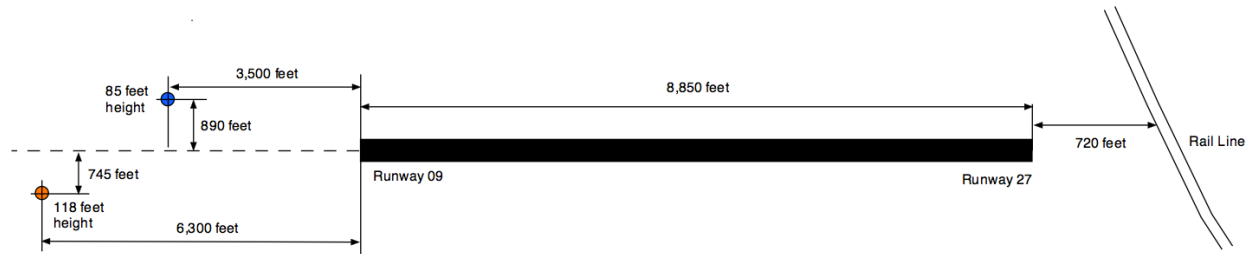

Figure 1. Runway Configuration for Problem 1.
An airport with a single 8,850 ft. runway is shown in Figure 1. The airport is located 2,300 feet above mean sea level. The airport has commercial service with 20 flights per day using Boeing 757-200 and Airbus A320 aircraft. Today, the runway is a **non-precision runway with a GPS approach to both runway ends**.
- 1) For runway 09, calculate if the two obstacles shown in Figure 1 are instructions to navigation. Object 1 is an antenna (blue), object 2 (orange color) is a new hotel built near the airport .